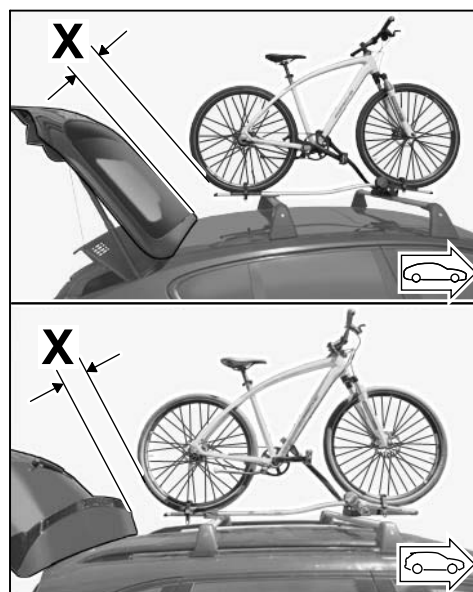

Figure 18
- 5.3.2 Overhang to the rear (rear window/rear lid or tailgate ⇒ *Figure 18*):